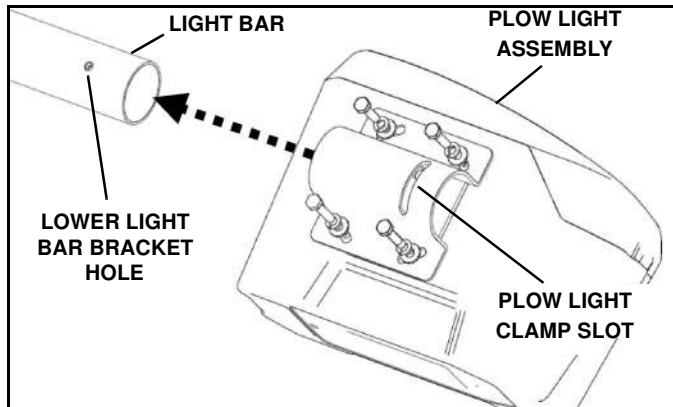

Figure 1-16
6. Slide the plow lights onto the respective ends of the light bar bracket, aligning the hole in the bottom of the bracket with the slot in the plow light clamp. (See Figure 1-16)